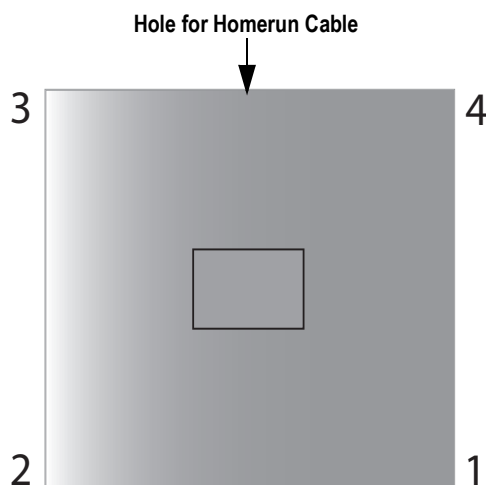

Figure 4-3. Corner Numbering (Top View)
1. Remove the summing board cover and identify the correct load cell terminal corresponding to each corner. See Figure 4-3 on page 10 for scale deck corner numbering.
The four load cells are each wired to their respective terminals in the summing board according to the corner numbering system shown in Figure 4-3 and the color code in Table 4-4. Feed the red cable through the hole on the side of the frame and wire to the summing board.